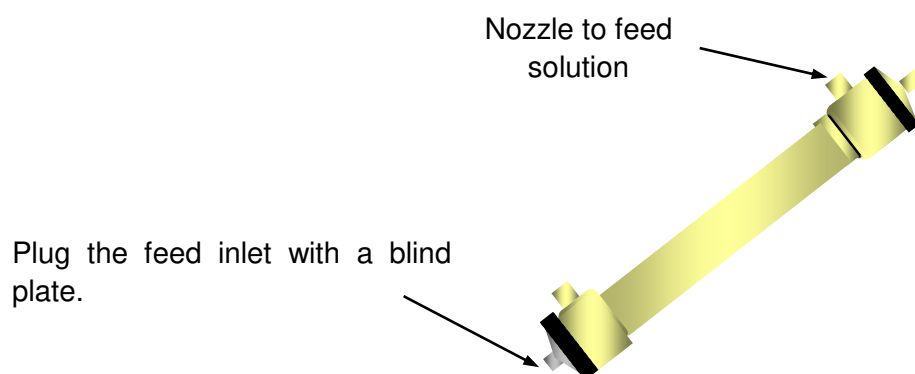

Figure 7 Example of Filling the Module with Sodium Hypochlorite Solution
- (2) Feed sodium hypochlorite solution of about 50mg/l from the discharge side and fill the module with it. Fig.7 shows the module sections relating to solution filling.